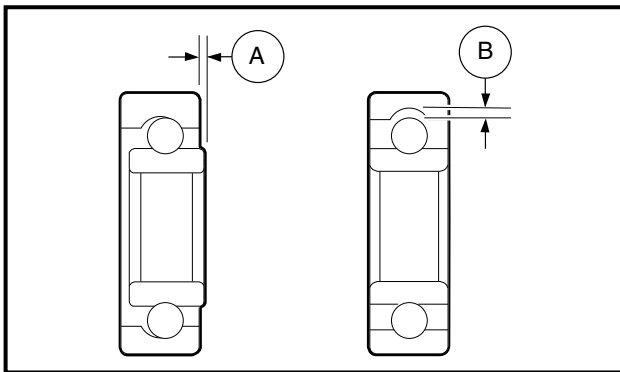

Figure 2-85 Check Ball Bearing
2. Spin the ball bearing by hand and check for (A) axial play and (B) radial play. Replace the ball bearing if it is noisy, does not spin smoothly, or if it has any play (**Figure 2-85, Page 2-37**).